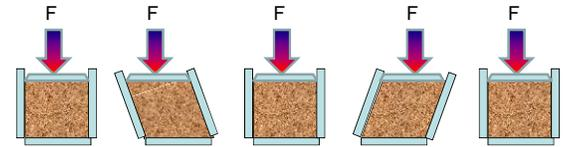

Figure 2. Schematic of stress strain degradation test
**Stress-Strain Degradation.** In this case, the predominant breaking action is due to fracture or fatigue caused by large stress or strain conditions. Therefore, we measure the degradation after exposing the material to pure strain or shear at a known stress condition. The material is placed in a rectangular test cell and allowed to deform as shown in Figure 2.